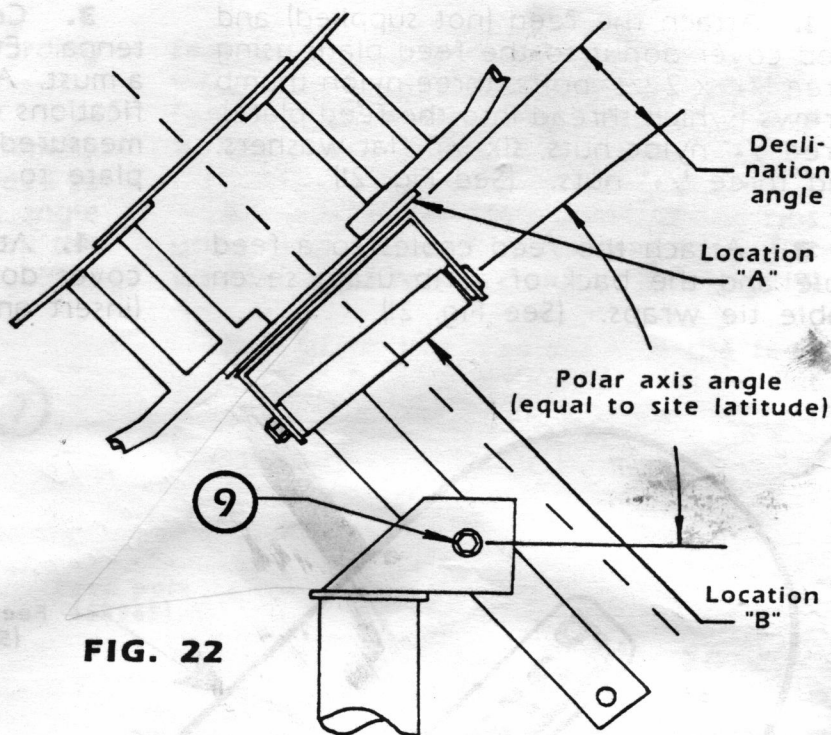

FIG. 22
1. Using an inclinometer at locations "A" and "B" indicated on Fig. 22 and the "Declination & Elevation Chart" below, recheck your declination angle that was set with shims on page 14.
2. The antenna is preset with approximately 4° declination. To increase your declination angle, add shim(s) to the top. To decrease it, add shim(s) to the bottom. The 1/8" (3.18 mm) shim equals 1° of adjustment, the 1/16" (1.59 mm) shim equals 1/2° of adjustment, and the 1/32" (.79 mm) shim equals 1/4° of adjustment. (See Fig. 22 and Fig. 15 on page 14.)
3. To adjust your elevation angle, loosen the 5/8" x 3 1/2" bolt connecting the mount assembly to the polar "T" assembly. Using an inclinometer, adjust the polar axis angle so that it is equal to the site latitude with the EZ adjustment rods. (See Fig. 22)